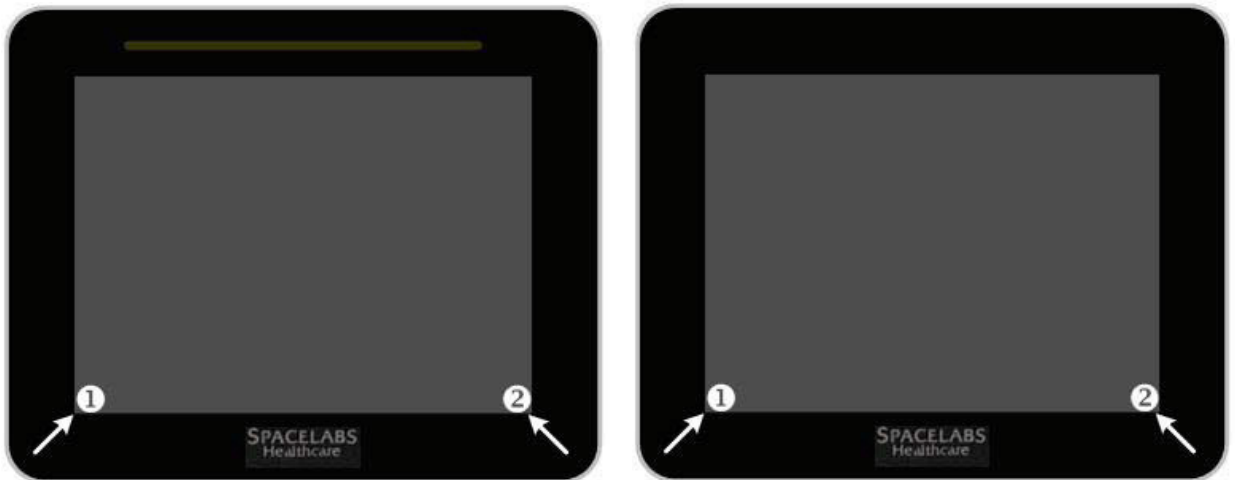
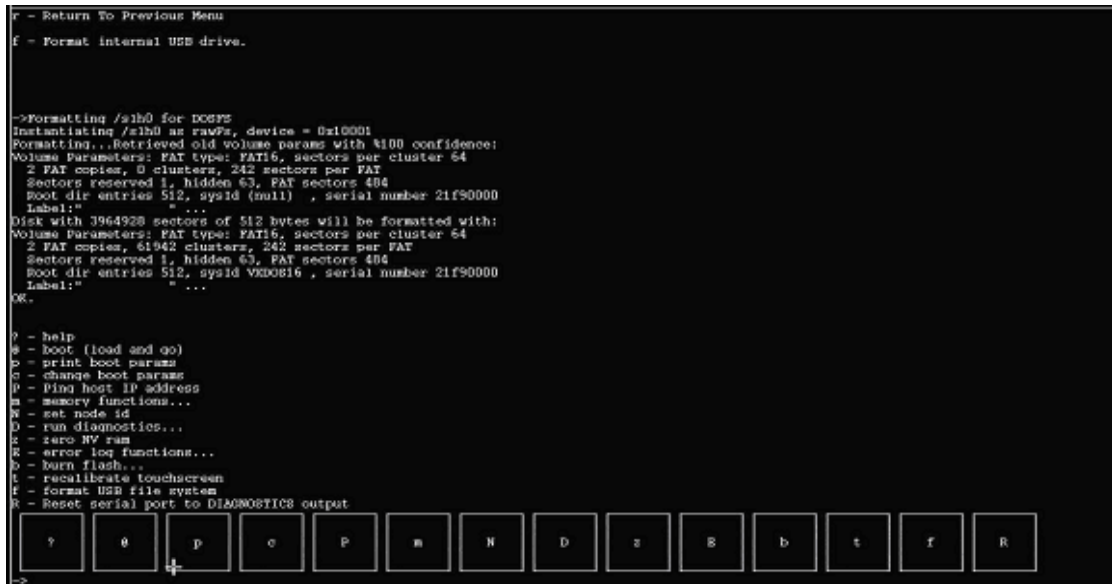

Figure 4-8 Touch Points to Enter Extended Diagnostics on Options A and B (left) and Option C (right)
Figure 4-9 Main Diagnostics Menu
- 4 To enter extended diagnostics, touch the lower corners of the touchscreen in sequence during the 4-3-2-1 countdown. Touch the corners of the visible part of the lighted electronic display (LED), not the corners of the bezel (refer to Figure 4-8 on page 4-15). If you use a mouse, click both the right and left mouse buttons simultaneously during the countdown. The Main Diagnostics Menu is shown in Figure 4-9.